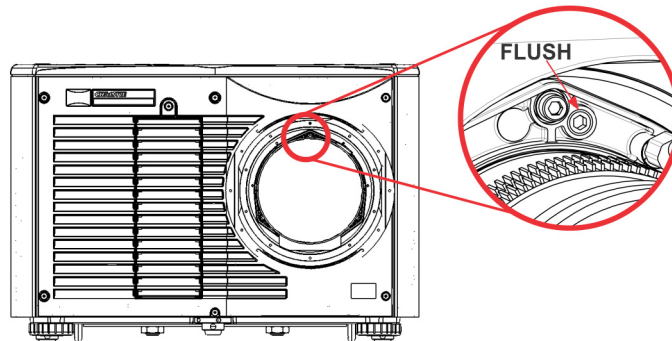

FIGURE 2-36
9. The original factory boresight can be recovered approximately by positioning the 3 setscrews, see *Figure 2-35 Screw Locations*. Position the setscrews flush with the front face of the lens mount plate and in contact with the inner lens mount plate. Refer to *Figure 2-36*. This may require adjusting both setscrews and capscrews.